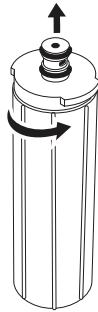

Figure 6
- Align tabs of filter cartridge with head assembly and insert filter cartridge into head assembly. Turn filter cartridge counter clockwise until it stops (about 1/4 turn.) The filter is now installed. (See Figure 6.)